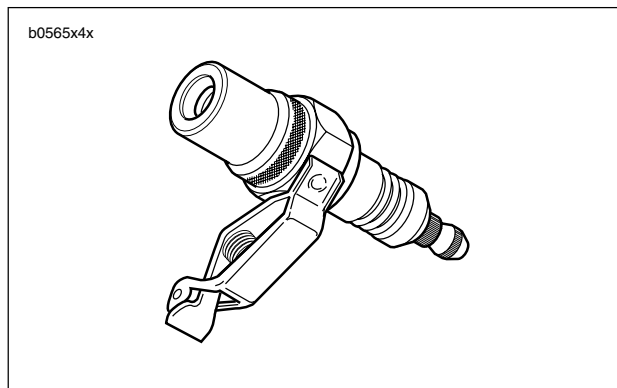

Figure 4-18. Spark Plug Tester (Part No. HD-26792)
- b. See Figure 4-18. Attach cable to SPARK PLUG TESTER (Part No. HD-26792). Clip tester to cylinder head bolt.